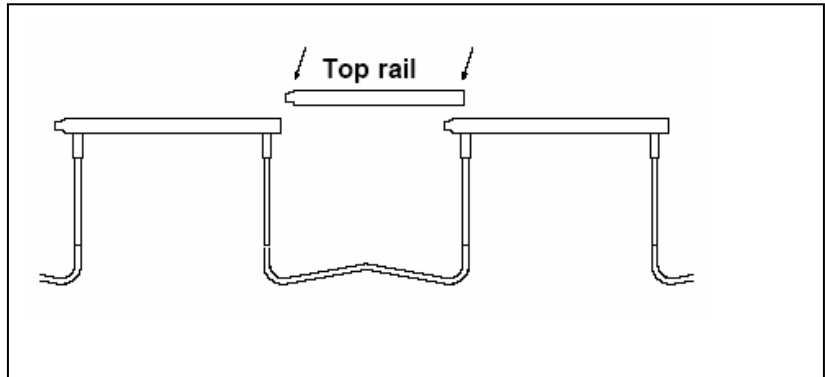

FIGURE 4
Now install the remaining four (3) top rails in the gaps between the four three (3) top rails with sockets. Slide each top rail into the joints at both ends of the gap (See Fig. 4). **This completes the frame assembly.**